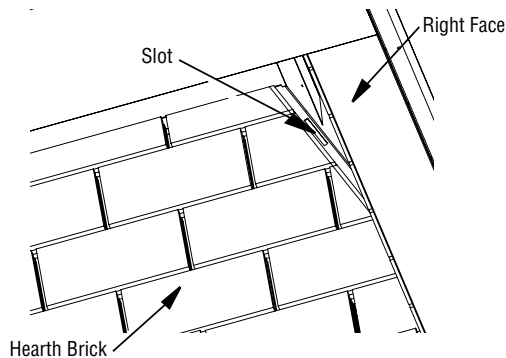
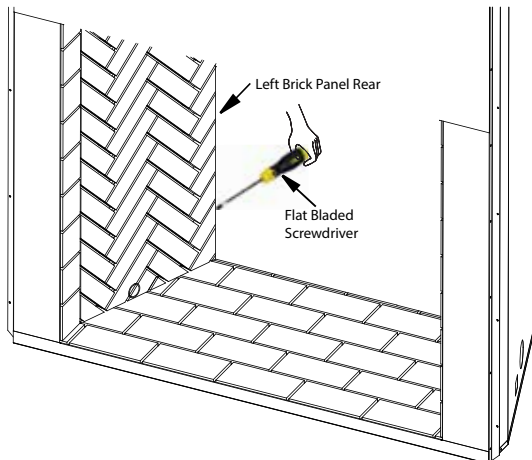

Figure 29 - Slots for Brick Panels
Figure 29A- Tight Joint Adjustment
- Install the left and right brick panels. Place left brick panel inside the fireplace (there is a bracket with 2 tabs on the bottom of each brick panel). Angle the panel and position it so the tabs are lined up with the slots in the bottom of the fireplace. Once they are lined up, lift the left brick panel into position (**Figure 29**). Next, take a large flat bladed screwdriver and apply pressure at the rear of the panel and adjust so there is a good tight joint between the left brick panel and left leading brick panel (**Figure 29A**). **NOTE: Large bladed Screwdriver is to be used only on the rear side of the panel. The use of excessive force when adjusting joints can cause panels to chip.** Repeat steps to install the right brick panel.